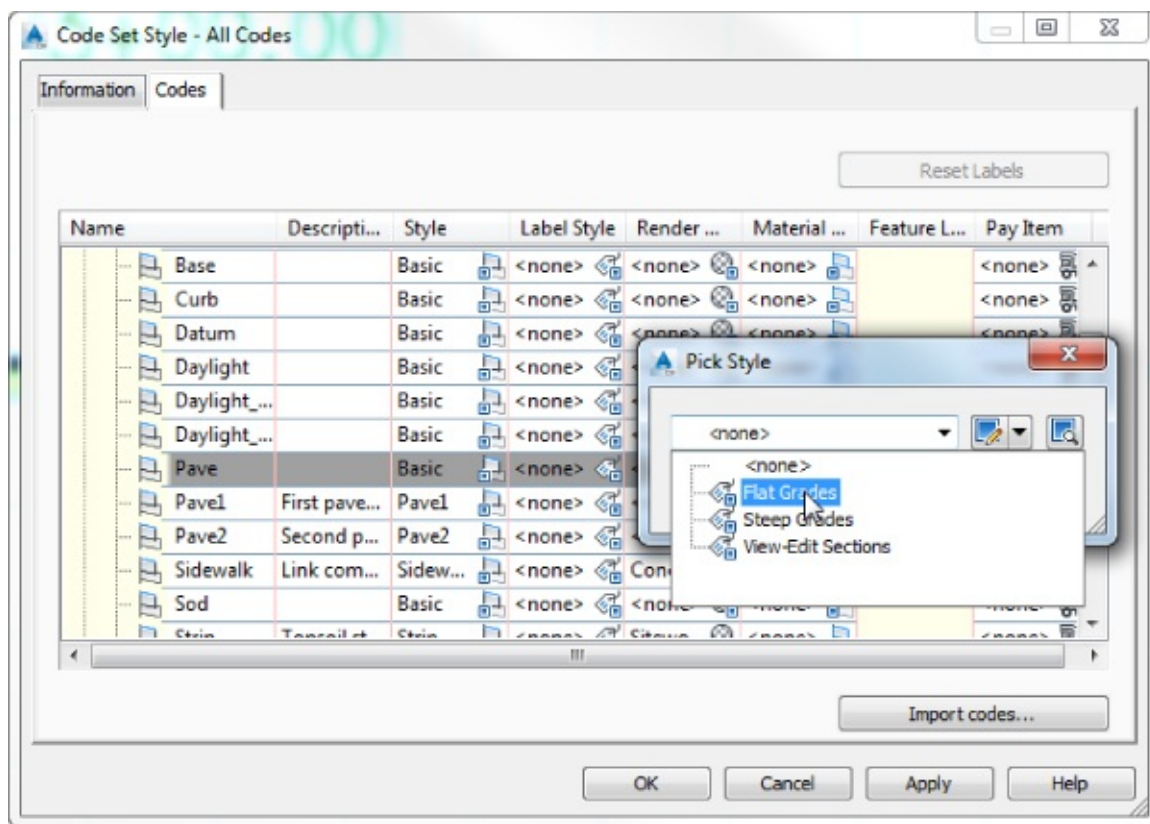

Figure 18.53 Adding labels to the link codes in the code set style
3. On the Codes tab under the Link category, select Pave, and click the Label Tag icon in the Label Style column, as shown in Figure 18.53.